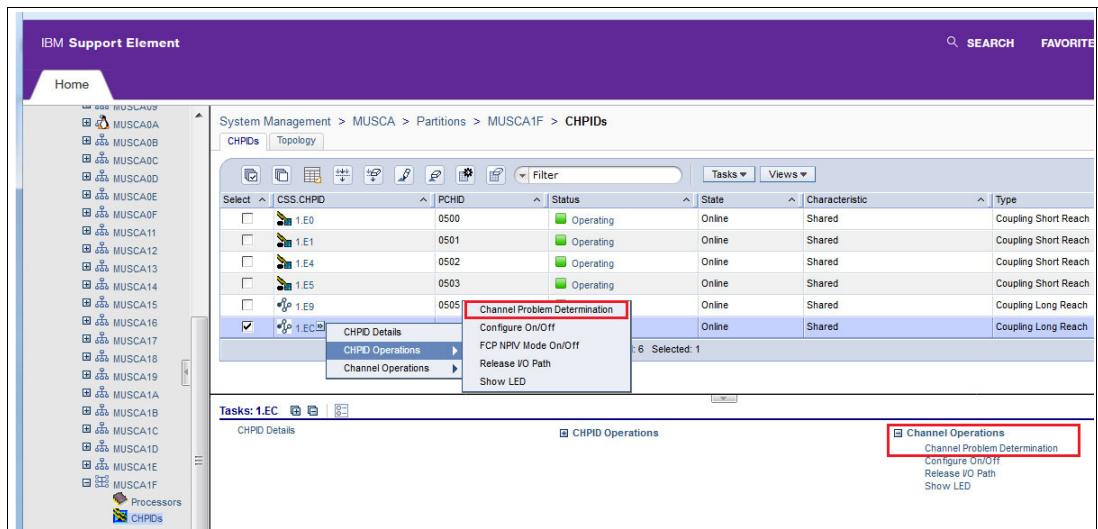

Figure 5-34 System Management: CHPID Operations
- Click **CHPID Operations** to expand the options and click **Channel Problem Determination** (see Figure 5-34).